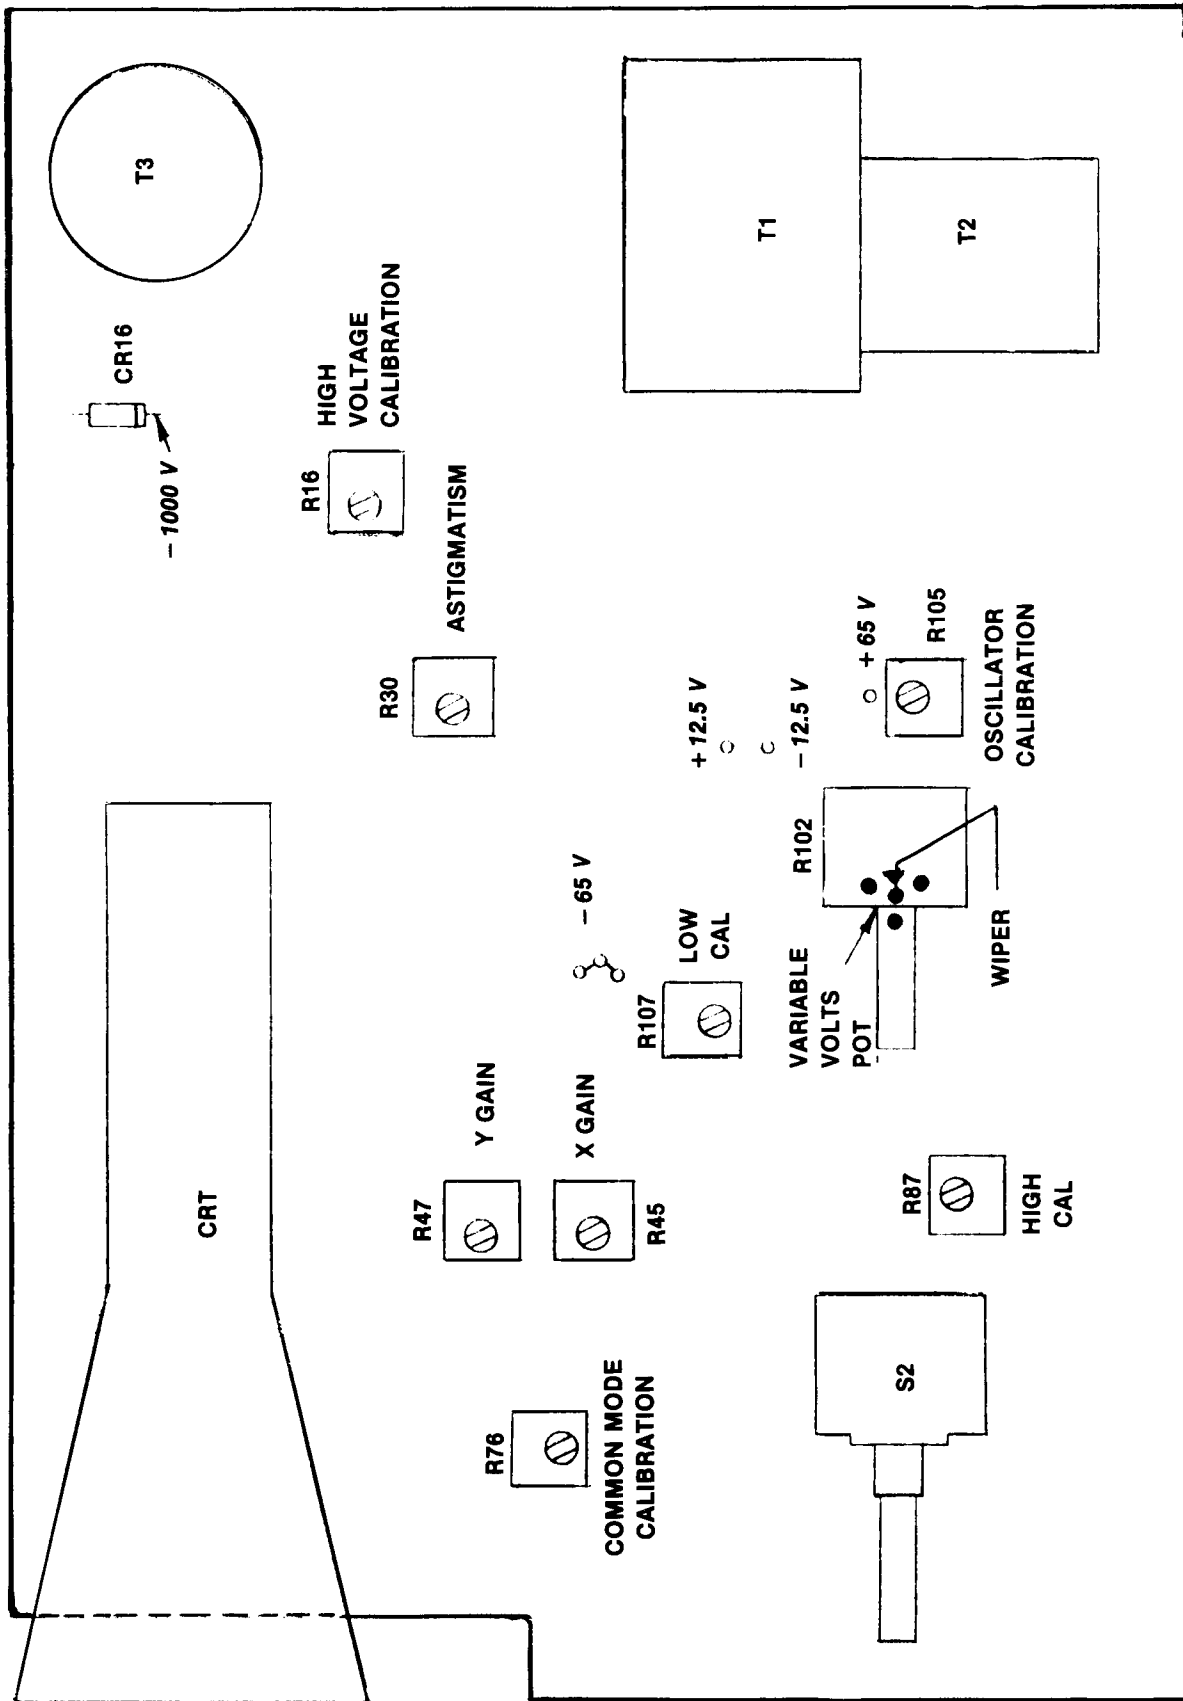

FIGURE 12. ALIGNMENT ADJUSTMENT LOCATIONS
Refer to Figure 12 for location of alignment adjustments.
1. Using DVM connect the low lead to signal common. Probe the test points on the mother board (Refer to Figure 12.)